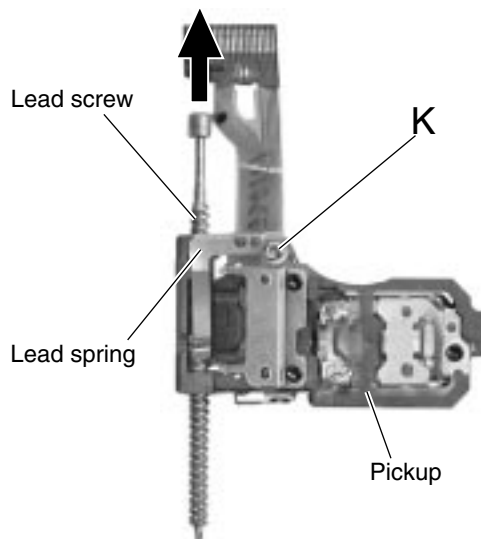

Fig.12
■ Removing the pickup (See Fig.12 and 13)